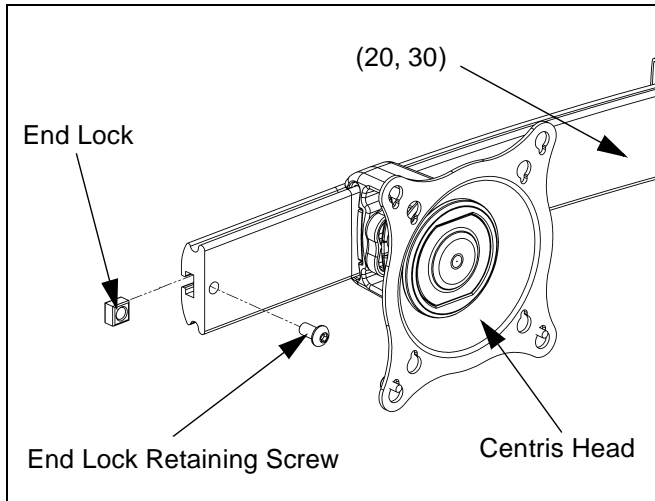

Figure 12: Reinstall End Lock(s)
8. Reinstall end locks into mounting rail using the 5/32" hex key (120) (see Figure 12).